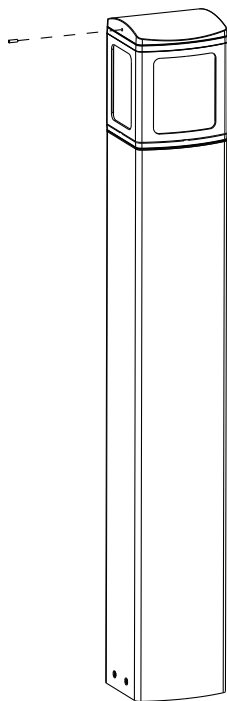

Fig. 1
- 1.) On the flat side of the fixture that will be shielded, remove the M4 set screw at the top of the fixture (see **Fig. 1**).